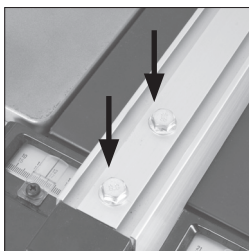

Fig. 21
- If adjustment is needed, gain access to the two hex headed screws located on the Rip Fence (**Fig. 21**).